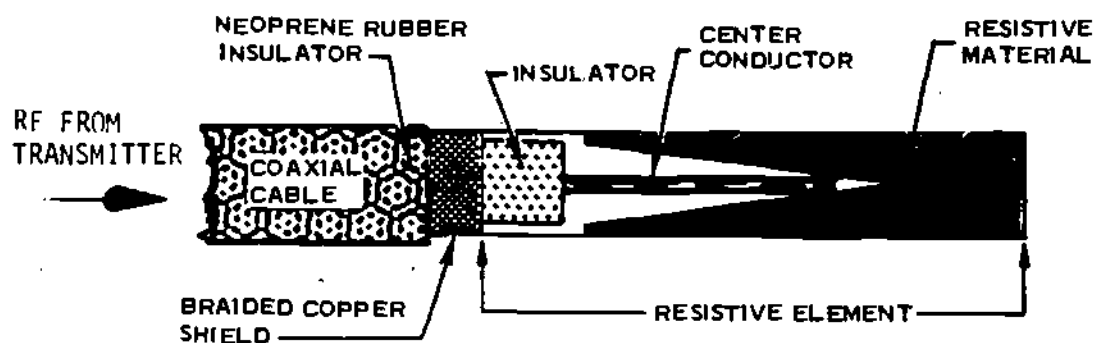

Figure 4
7. You have learned how a rheostat or fixed resistor can be used as a resistive dummy load for a power supply. Now a resistive dummy load which replaces the antenna of a radio transmitter normally is not a common resistor. The dummy load for a radio transmitter must be able to dissipate the large amount of heat produced by the RF energy. For low power levels, a common, non-inductive resistor may do the job. However, at higher power levels many dummy loads use a special resistive element. This element has a center conductor that is a resistive mixture of powdered graphite with an adhesive compound. The resistive mixture is formed into a tapered cone and connected to a piece of coaxial cable transmission line as shown in Figure 4.